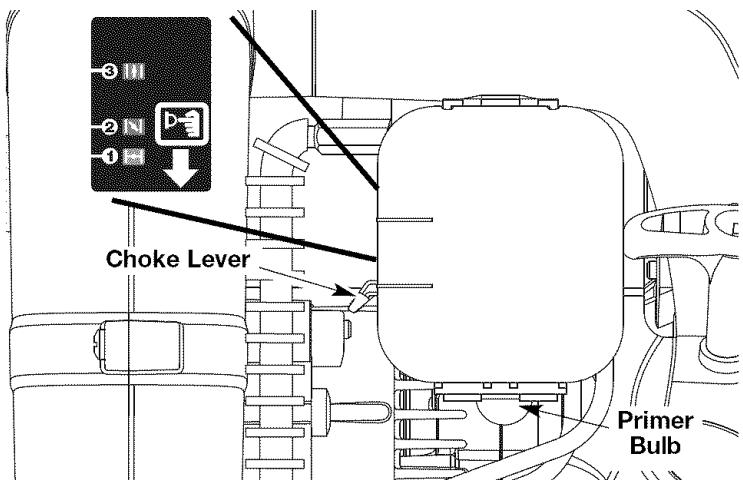

Fig. 12
WARNING: Avoid accidental starting. Make sure you are in the starting position when pulling the starter rope (Fig. 12). To avoid serious injury, the operator and unit must be in a stable position while starting. To avoid serious personal injury, make sure that the blower tube is locked in place or firmly installed.
2. Fully press and release the primer bulb 10 times, slowly. Some amount of fuel should be visible in the primer bulb and fuel lines (Fig. 12). If you can't see fuel in the bulb, press and release the bulb as many times as it takes until you can see fuel in it.
3. Place the choke lever in Position 1 (Fig. 12).
9. Place the choke lever in Position 2 (Fig. 12).
12. Once the engine is warmed up, place the choke lever in Position 3 (Fig. 12). The unit is ready for use.
IF... the engine hesitates, return the choke lever to Position 2 (Fig. 12) and continue warm-up.